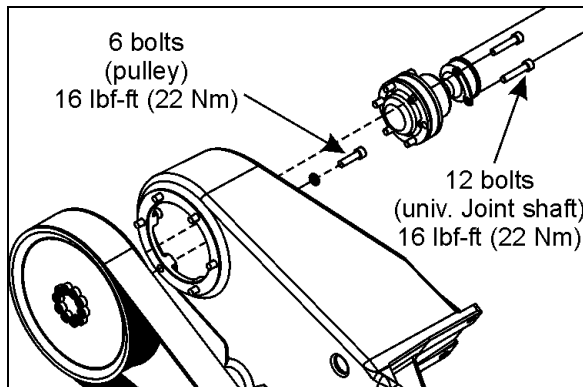

FIGURE 15: TIGHTENING SPECIFICATION
2. Dismount the drive pulley. Gain access to the 6 mounting bolts from behind the pulley, through the opening in the cast aluminum support (Fig. 15).
3. Unscrew and remove the universal joint shaft mounting bolts (6) at the right angle gearbox.